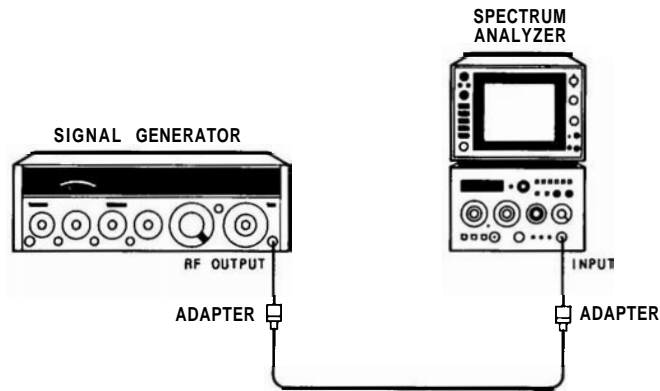

FIGURE 4-9. RESOLUTION BANDWIDTH ACCURACY TEST SETUP, 3 MHz TO 100 kHz
- 2. Connect equipment as shown in Figure 4-9.